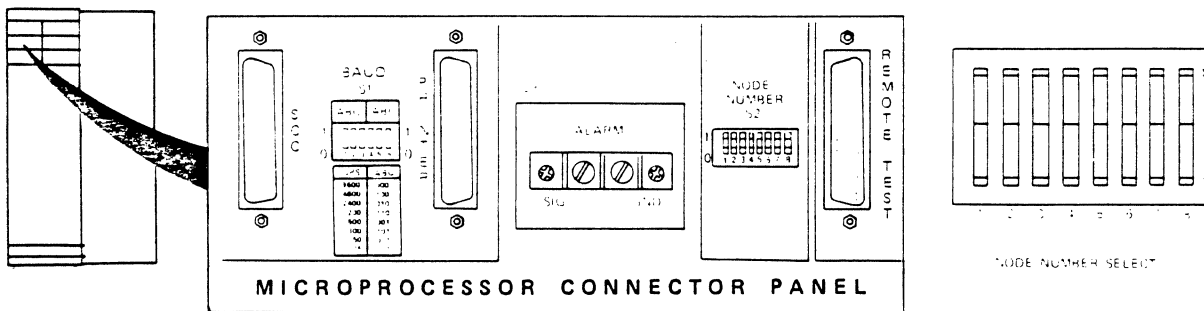

Figure 6-6. Node Number Switch Settings for the S2 Dipswitch
7. Obtain the node number for this Matrix Switch from the customer. Set switch S2 on the Microprocessor Connector Panel in the base unit and all attached extension units to this node number (Figure 6-6).